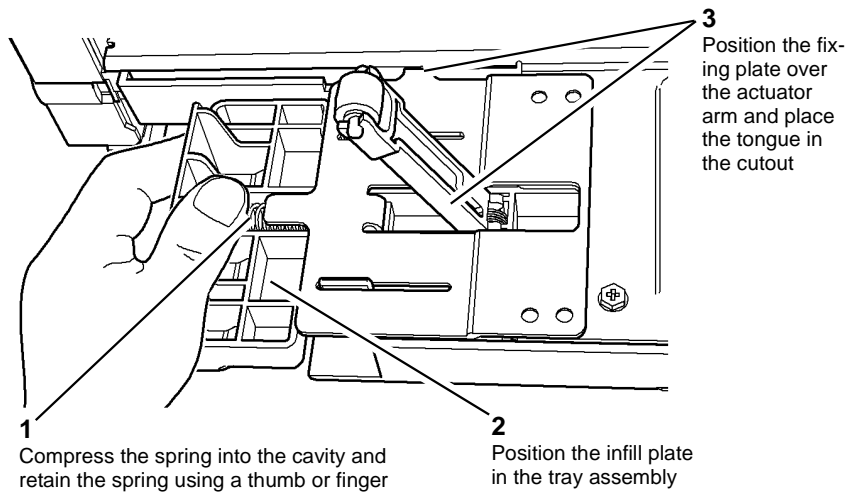
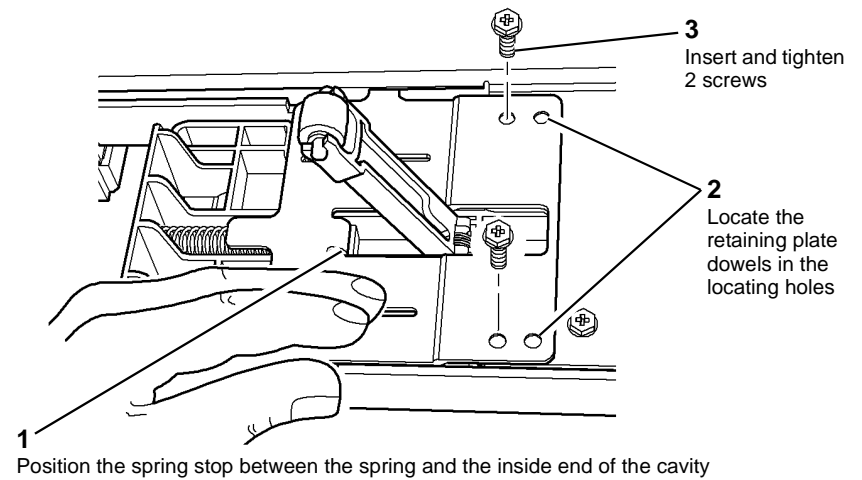

Figure 5 Rear guide assembly install
Figure 6 Rear guide assembly install
- Install the rear guide assembly, Figure 5 and Figure 6.